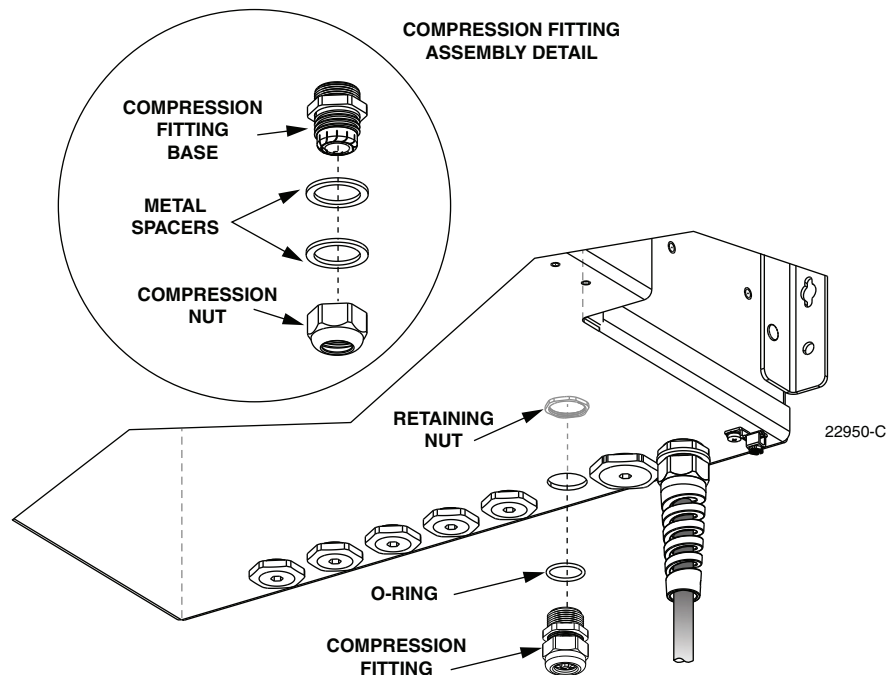

Figure 56. Distribution Cable Compression Fitting
5. Locate one of the distribution cable compression fittings that are shipped with the cabinet and loosely assemble the fitting as shown in Figure 56.